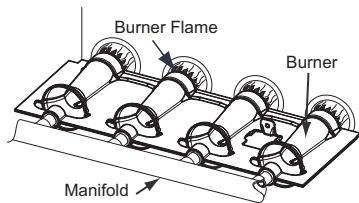
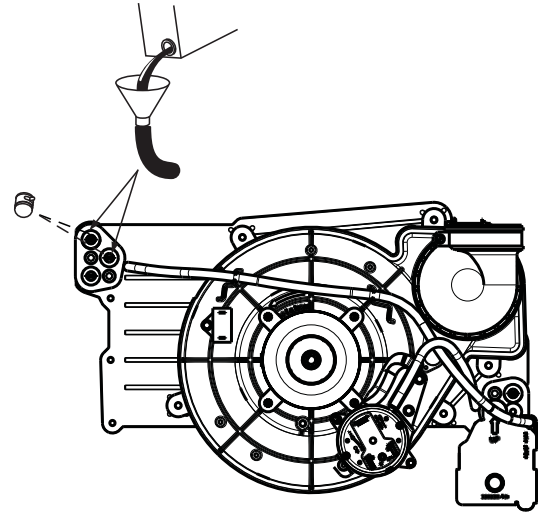

Fig. 22 – Burner Flame Adjustment
Fig. 23 – Winterizing Furnace
- b. Slide air filter out of furnace. Keep dirty side up (if dirty) to avoid spilling dirt (see Fig. 22 and Fig. 23).
5. Start your furnace and observe its operation. Watch the burner flames to see if they are clear blue, almost transparent (see Fig. 22).